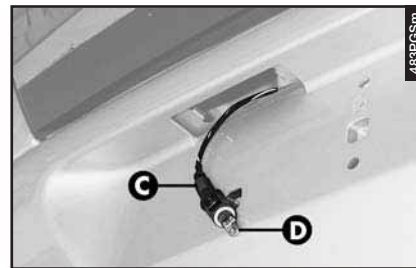

fig. 62
– Withdraw the bulb holder (**C**-fig. 62) turning gently and replace the bulb (**D**) which is snap-fitted.
– Refit the bulb holder (**C**-fig. 62) and the complete unit (**B**-fig. 61).